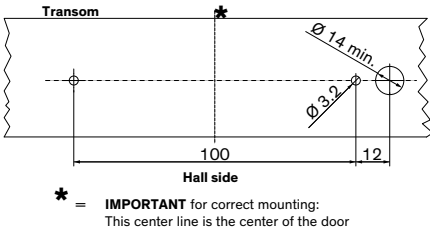

Figure 7: Drilling template
2. Drill a 14 mm (0.55 inch) hole into the transom for the sensor cable (Figure 7).